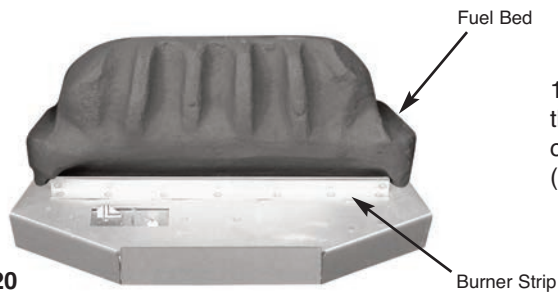

Fig. 20
1. Place the main fuel bed on to the middle section of the metal burner tray. It is important that the front edge of the fuel bed is located behind the burner strip (Fig. 20).